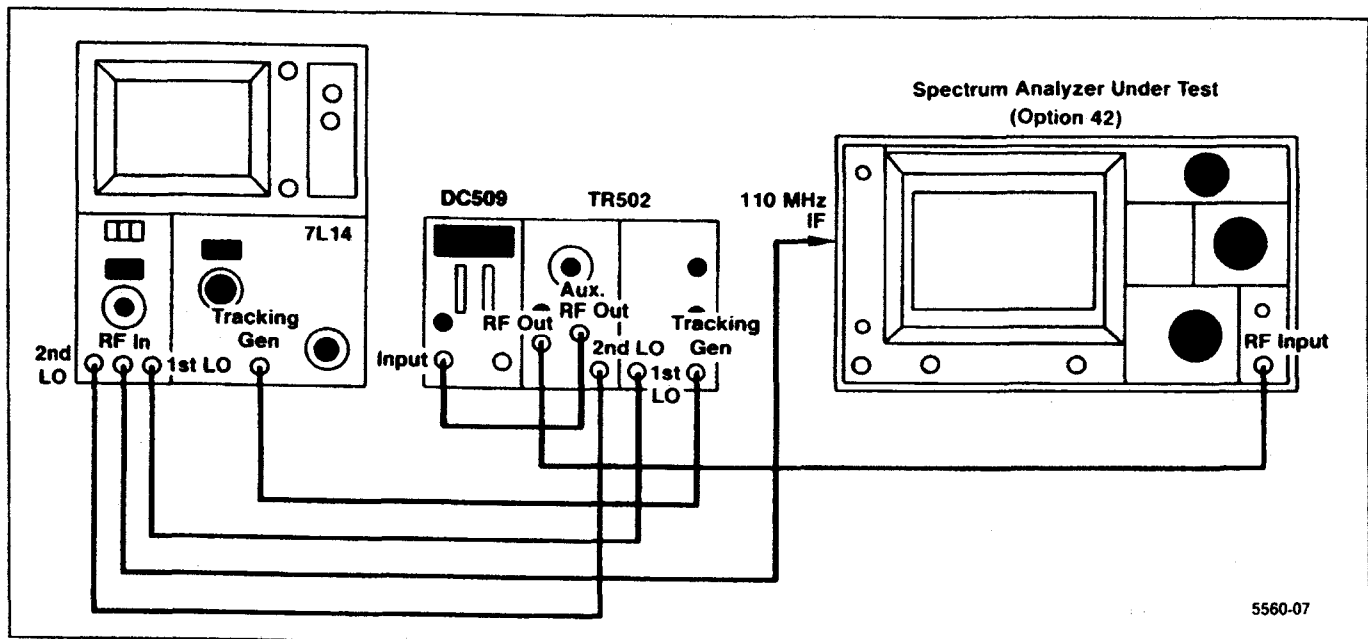

Figure 4-27. Test equipment setup for checking Option 42 frequency characteristics.
a. Connect the test equipment as shown in Figure 4-27.